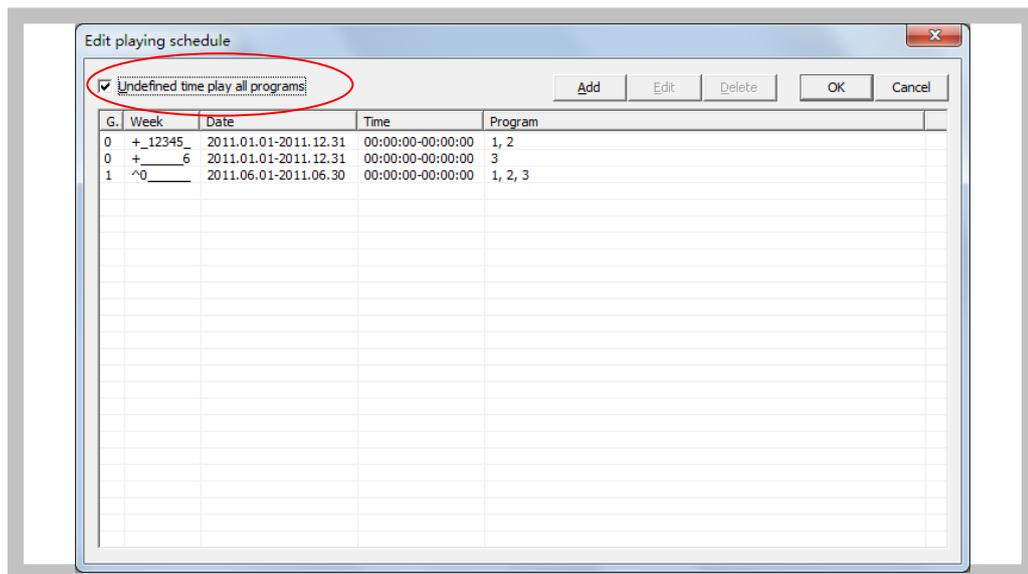

Figure40 Playing schedule list
- 1) Click “Edit” – “playing schedule” in menu, as shown in Figure40.